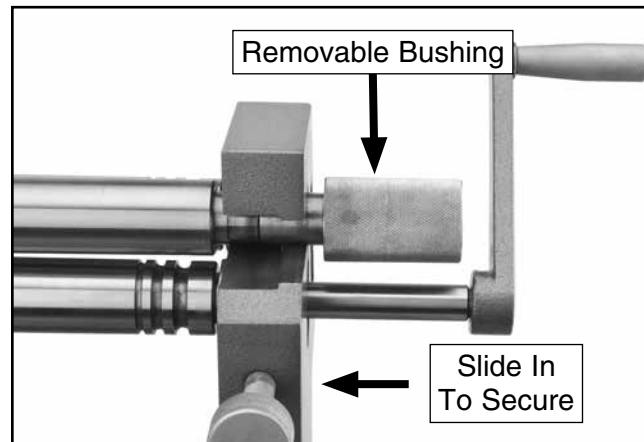

Figure 28. Securing top roller.
3. Move the top roller back into position and slide the removable bushing in to secure the top roller (see **Figure 28**).